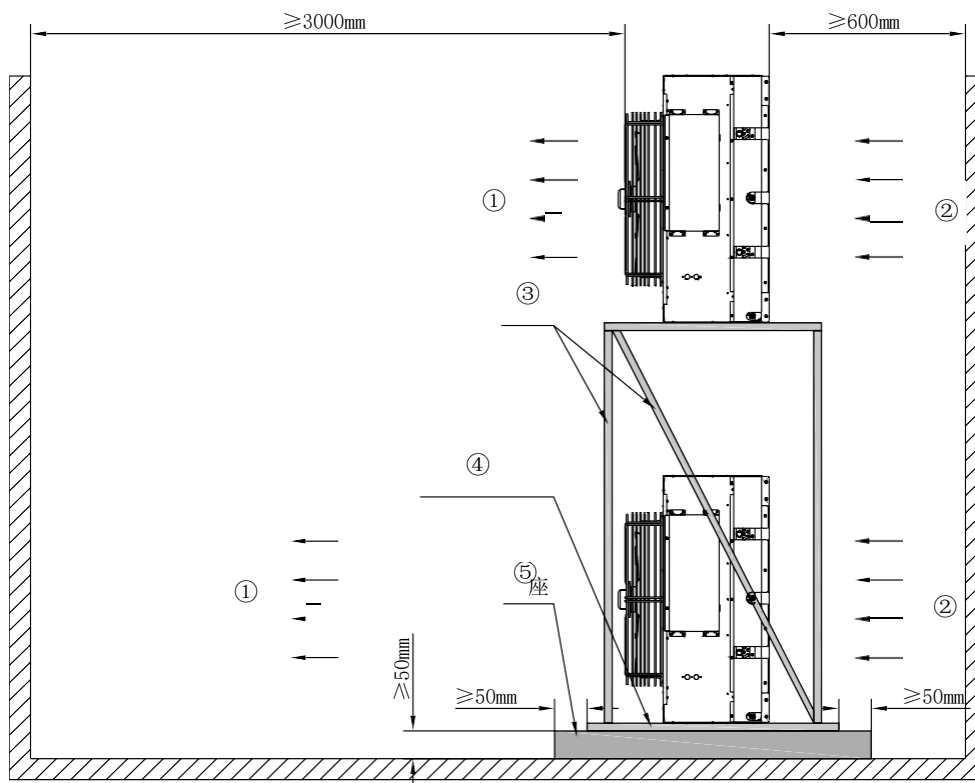

Fig. 2-4 Schematic diagram of stacking two outdoor units
4. When a condenser is placed on top of another condenser, the upper condenser must be installed on a bracket and a cushion pad should be installed between the unit and the bracket for shock isolation. It is forbidden to stack two condensers directly through screw connection, as shown in Fig. 2-4.